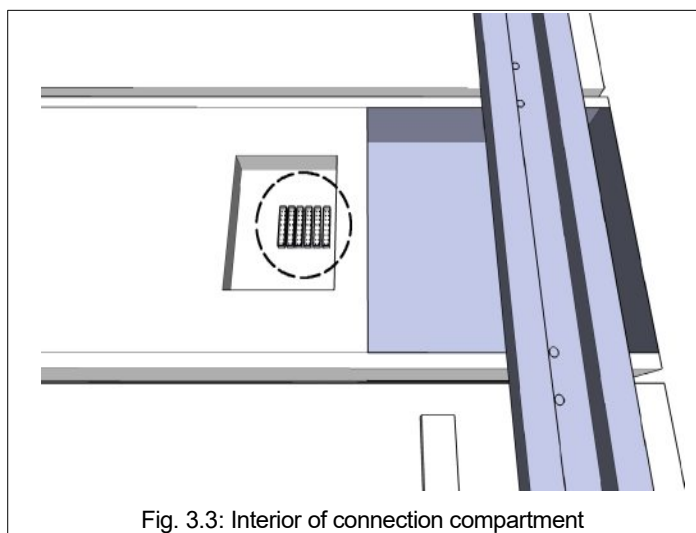
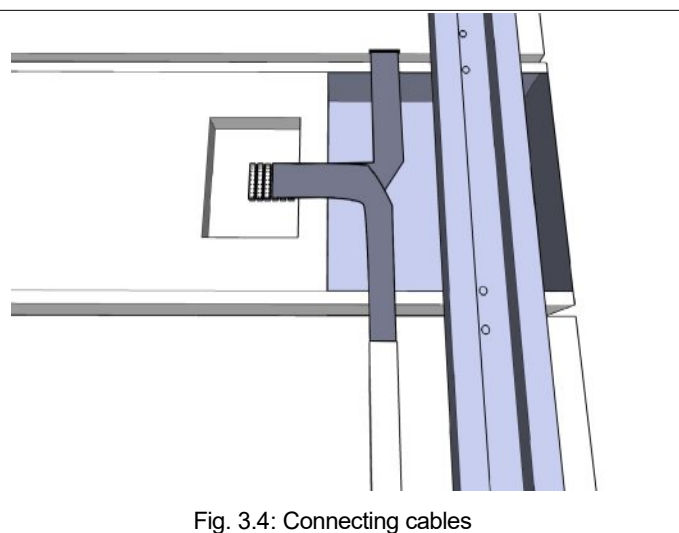

Fig. 3.3: Interior of connection compartment
Fig. 3.4: Connecting cables
Check that the flat cable of the various modules (Fig. 3.4) remains free for subsequent connection.
2. Connect the flat cables attached to the modules to the electronic board connectors (Fig. 3.3, Fig. 3.4) housed in the connection compartment.